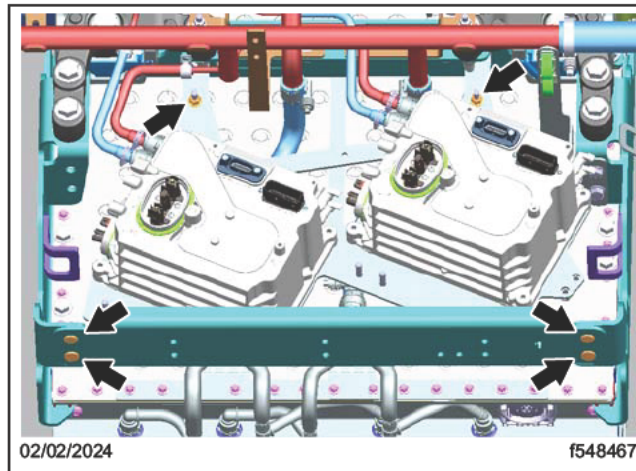

Fig. 18, DC Box Mounting Bracket Fasteners
15. Remove the DC box mounting bracket fasteners. See Fig. 18.
21. Install the DC box(es) and bracket on the vehicle. See Fig. 18.